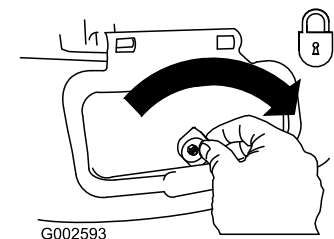

Figure 27
**Important:** Lock the side discharge door after you close it (Figure 27).